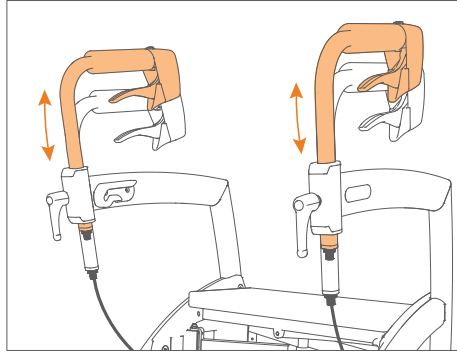

Figure 15: Set the correct height.
- b.** Slide the handles to the correct height (**Figure 15**).